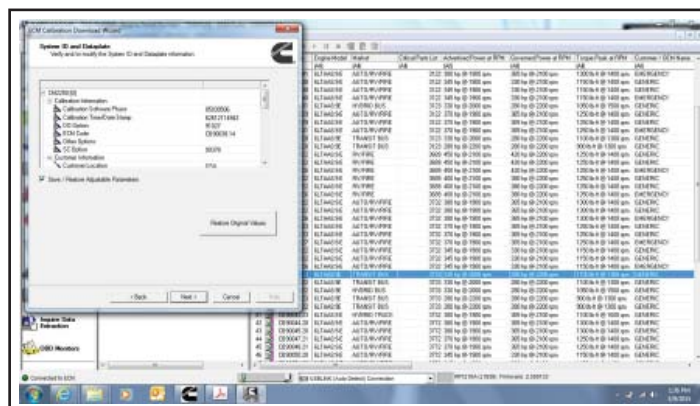

Figure 19 - Clicking on Next
1.19. Click next. See Figure 19.